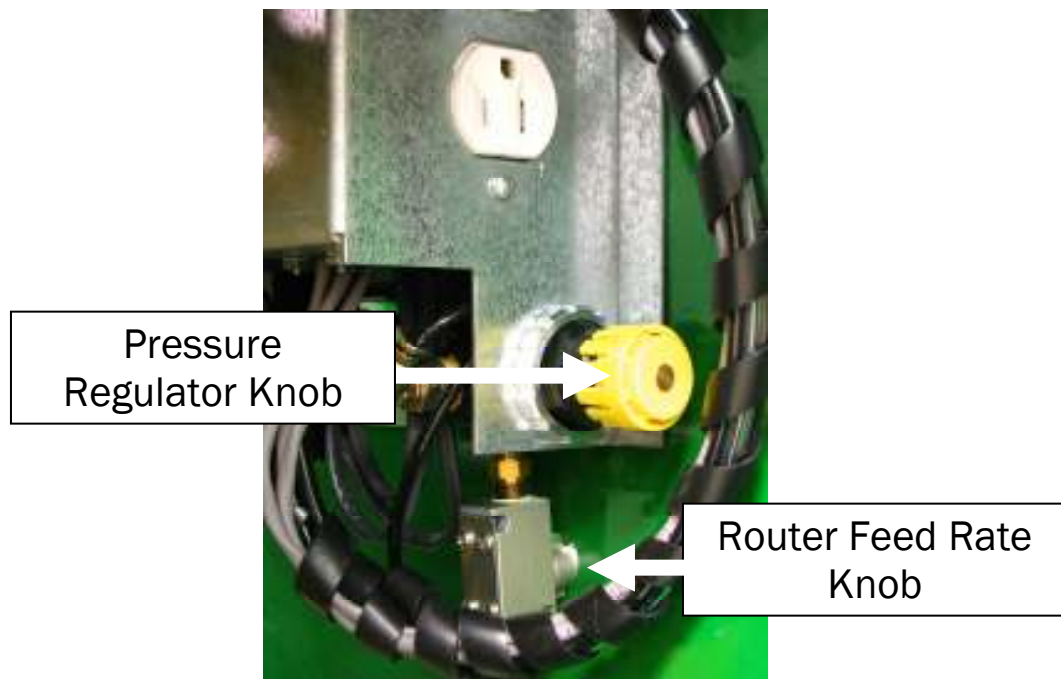

Figure 32
1. Open the rear door and locate the Pressure Regulator mounted to the Control Box. **See fig. 32.**